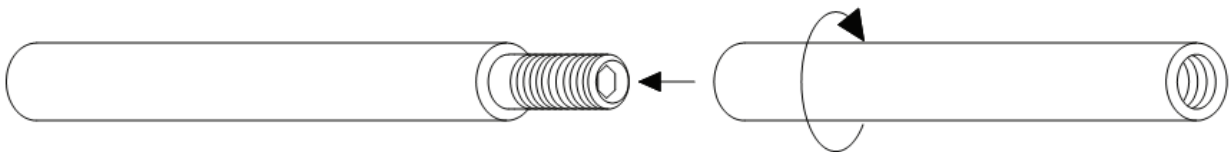

Fig 2
3. Mark the appropriate location of each bracket with a pencil. Pre-drill the screw holes using a 1/4"(6.5mm) drill bit. End bracket is installed by first removing the cover plate from the top of the bracket by using the included Allen wrench to loosen the flat-head set-screw. Then mount the bracket on the wall at the desired height. After securely installing the first bracket, place the rod in the bracket, and extend rod to the location of the second bracket. Using a level, determine proper height of second bracket to ensure that rod will be installed level. Mark the height and install the second bracket. (See Fig 2, 3&4)
2. Hold the rod with connector screw attached, insert the exposed connector screw into the additional rod and twist to tighten. (see Fig 2)